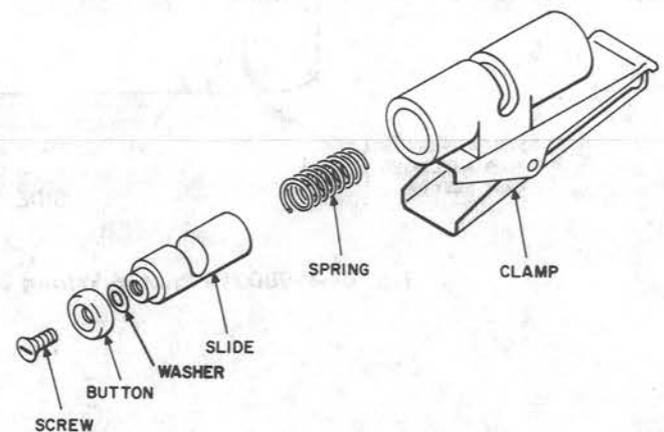

Fig. 6—Clothes Clip—Exploded View
5.07 Clothes Clip: The clothes clip may be slipped up and down the cord by squeezing the ends of the clip together. To replace the clothes clip, remove the associated screw using the KS-2348 cord repair screwdriver and remove the clothes clip. Substitute the new clothes clip and install in the reverse order of removal. (See Fig. 6.)